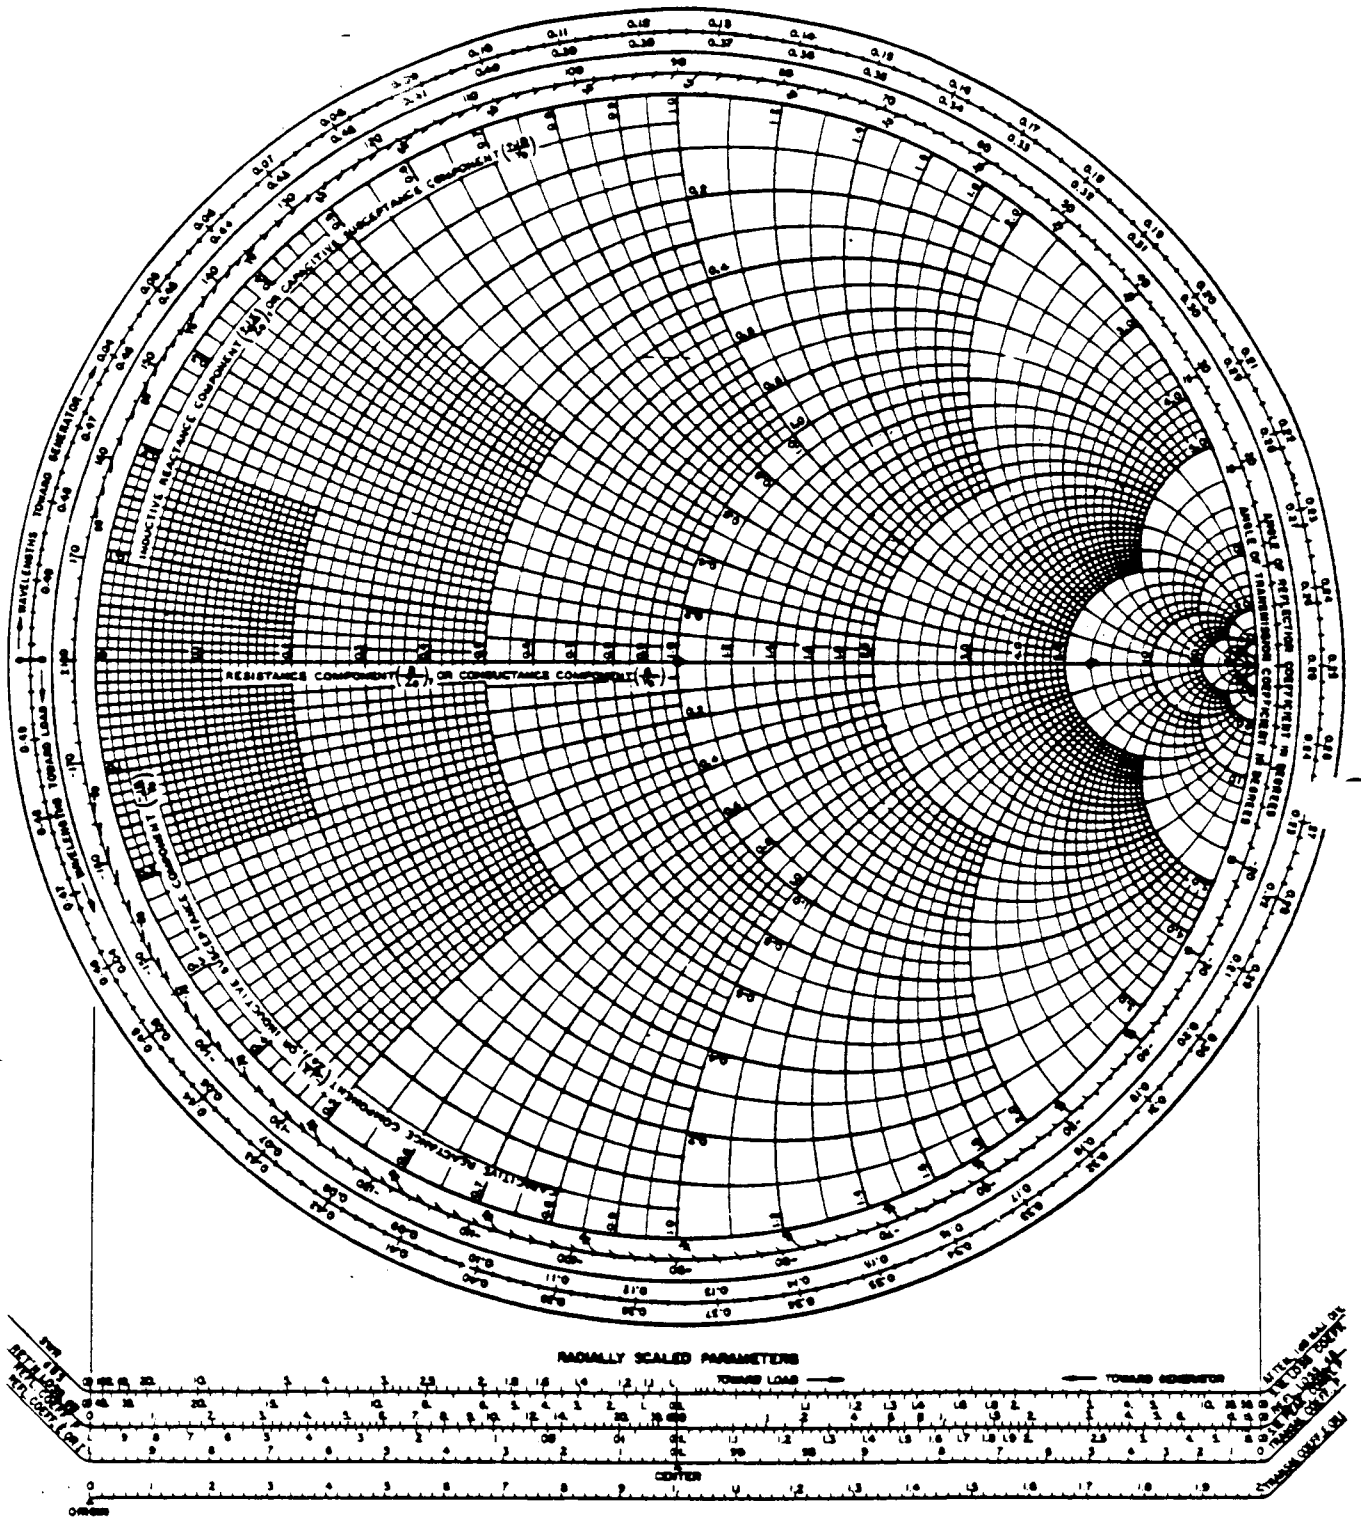
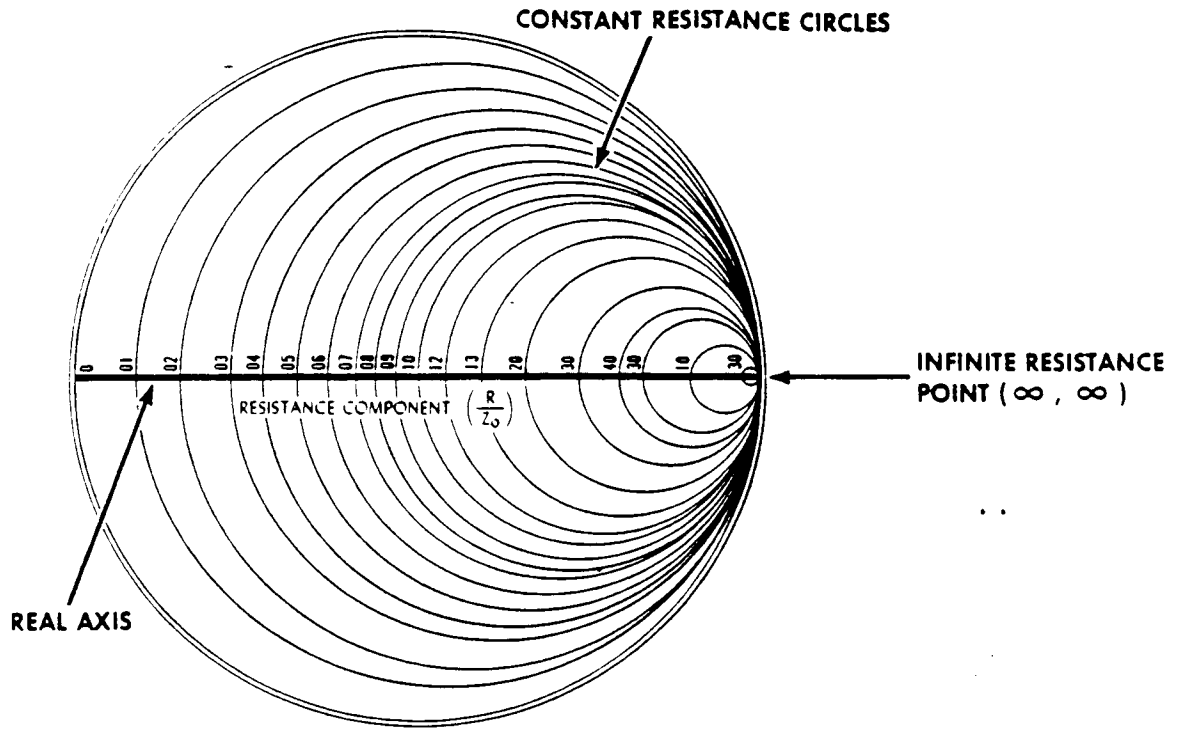

FIGURE 3-1. Smith Chart.
FIGURE 3-2. Smith Chart Resistance Scales.
A full detailed Smith chart is shown in Figure 3-1. At first glance, the Smith chart appears to be a formidable array of circles and curved lines and quite confusing. However, the following discussion (Paragraph 3.2.1) will take the chart apart and functionally describe its parts to provide a comprehensive understanding of its purpose. A step-by-step description on how to use the chart is given in Paragraph 3.2.2. In order to accommodate those who desire a more fundamental understanding of the Smith chart, a rigorous but brief explanation of its development is provided for background information in Paragraph 3.3 followed by a more simplified interpretation in Paragraph 3.4.
**3.2.1 Understanding the Smith Chart.** The Smith chart shown in Figure 3-1 is a circular graphic display that contains various circular scales. The horizontal line through the center of the circle, marked RESISTANCE COMPONENT is the only straight line on the chart. This line is also referred to as the Real Axis. Centered on the Real Axis are Constant Resistance Circles each of which is tangent to the rim of the circle at the infinite resistance point as shown in Figure 3-2. All points along each Constant Resistance Circle have the same resistive value as the point where it crosses the Real Axis. All resistance components from zero to infinity can be plotted.
**3.2.1.2** Peripheral scales around the outside circumference of the chart (Refer to Figure 3-1) relate to quantities which change with position along a transmission line. The two outer scales are calibrated in terms of wavelength along the transmission line. The scale in the clockwise direction is WAVELENGTH TOWARD GENERATOR and the scale in the counter-clockwise direction is WAVELENGTH TOWARD LOAD. The circumference of the chart represents one-half wavelength. The two inner scales represent ANGLE OF REFLECTION COEFFICIENT in degrees and ANGLE OF TRANSMISSION COEFFICIENT in degrees.